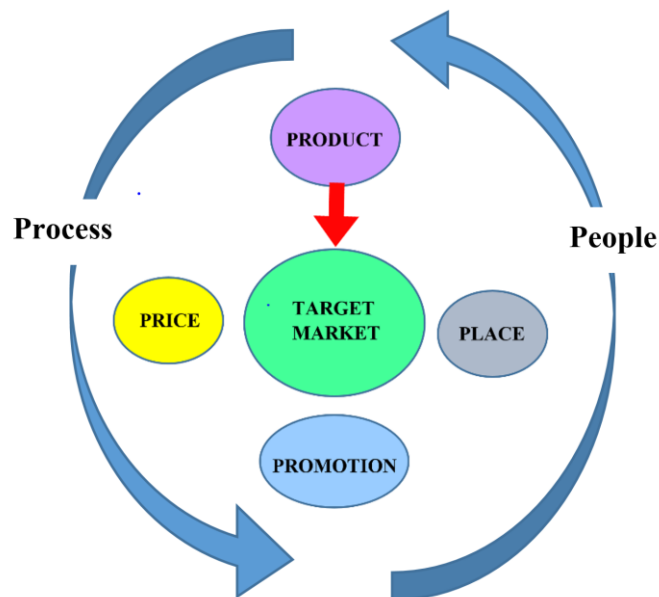

Figure 10-2: The marketing mix with the four Ps (Product, Price, Place and Promotion) and the interactive roles of process and people
When operating a tilapia farm, you should develop and stick to market strategies that provide maximum benefits or returns to the business. Four (4) key factors (Figure 10-2), also referred to as “the marketing mix,” that can be controlled to satisfy customers in target markets are: